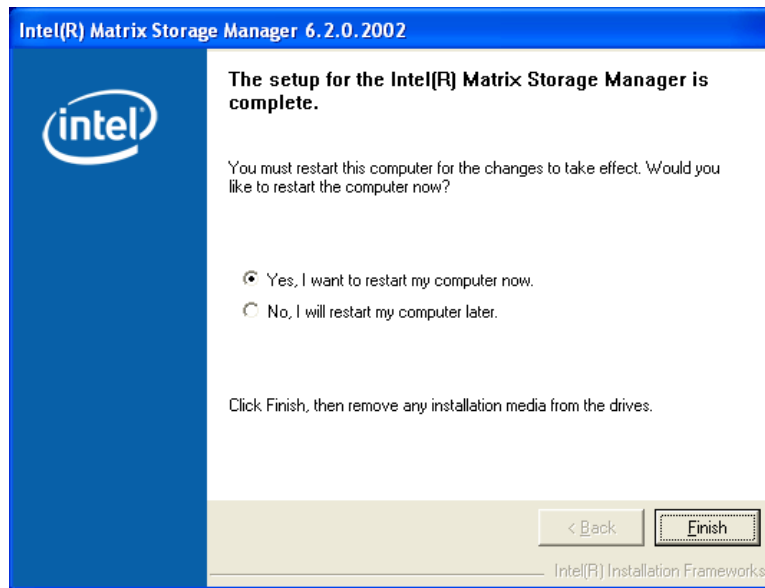

Figure 6-46: Matrix Storage Manager Setup Complete
Step 12: After the driver installation process is complete, a confirmation screen appears (**Figure 6-46**).